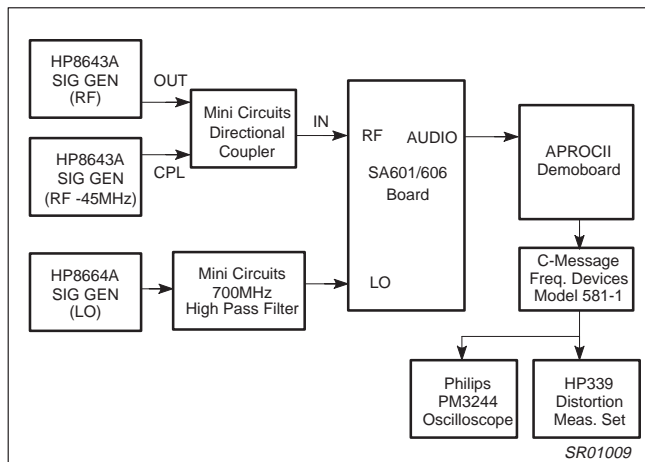

**Figure 11. Test Setup for Measuring Transmitter Desensitization**
- Configure the test equipment as shown in Figure 11.